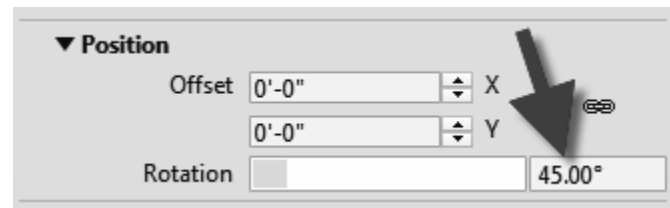

FIGURE 4-4.13 Rotate texture 45 degrees
46. Adjust the rotation of the *Appearance* Asset to **45** degrees; click **Edit...** in both the *Ceramic* and *Relief Pattern* sections (Figure 4-4.13).